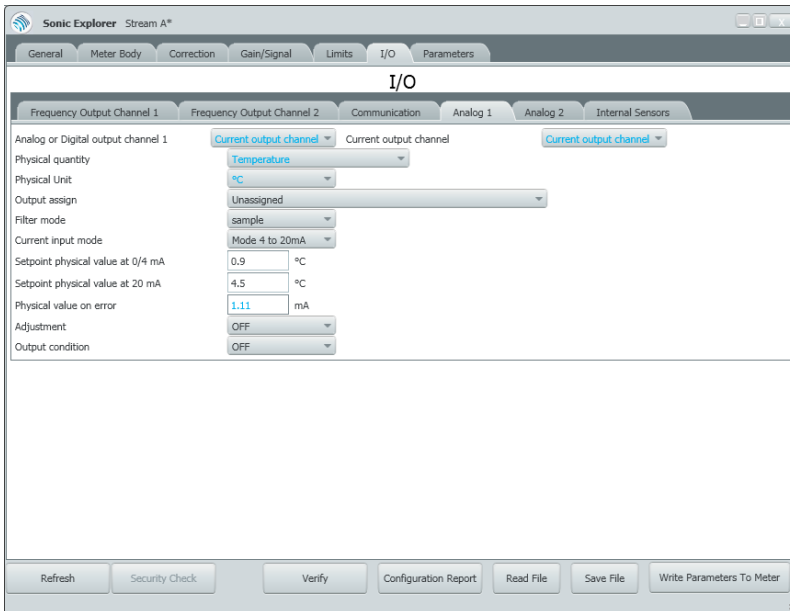

Figure 19-8 Input/Output Configurations
- ✓ Input/Output configuration window will be displayed. Please see Figure 19-8 below for a screenshot of the I/O configuration options.